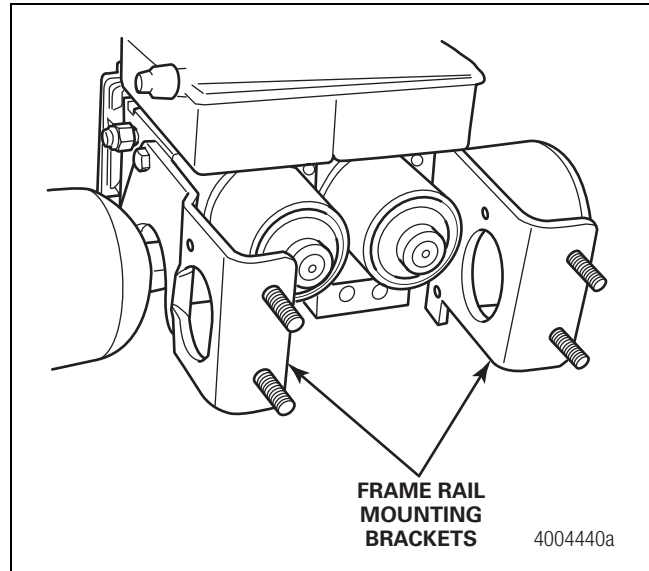

Figure 7
4. While supporting the HCU, loosen and remove the four nuts (two per side) that hold the HCU mounting brackets to the frame rail of the vehicle. Remove the HCU, with mounting brackets attached, from the vehicle. Figure 7.